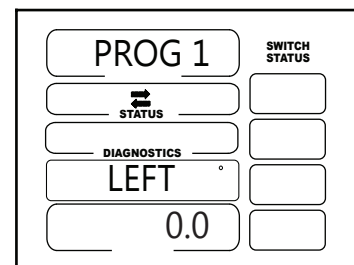

Figure 18-3
- c) Pressing  or  twice results in turning both icons on. This indicates the program will execute in both directions. See figure 18-3.